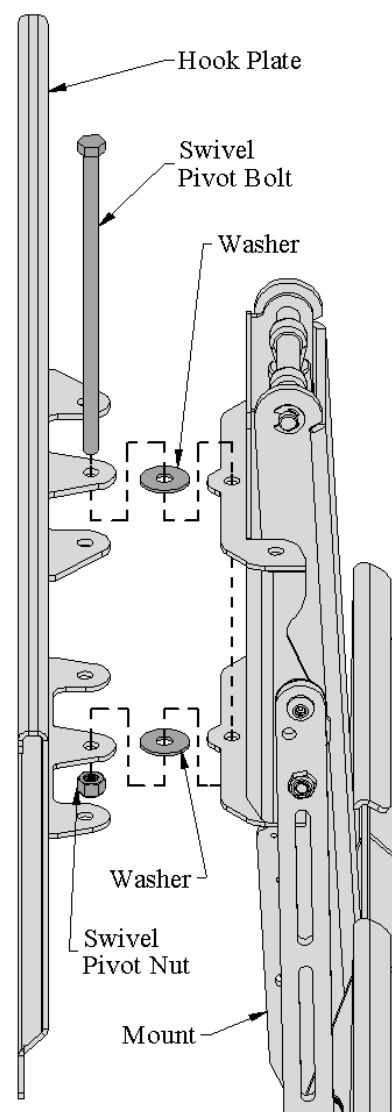

Figure 7, Swivel Bolt (Side View of Mount)
3. Once you know the holes that you will use, slide the Swivel Pivot Bolt through the holes and washers from the top as shown in Figure 7